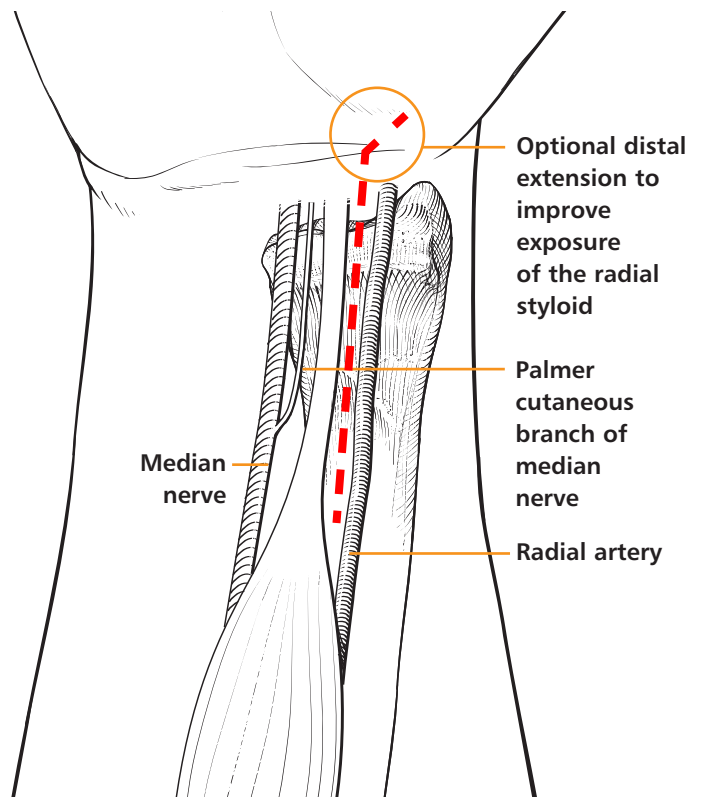

Fig. 1
**REMARK:** Care should be taken to avoid the palmar cutaneous branch of the median nerve (**Fig. 1**).